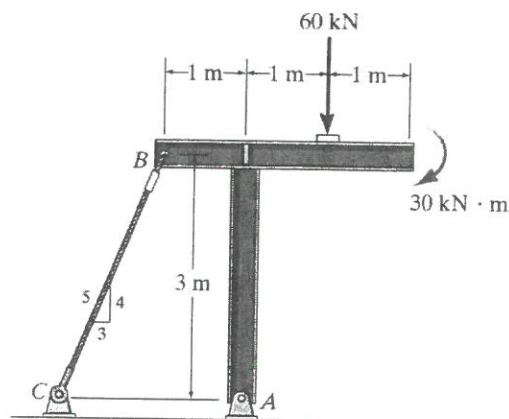

Figure Q3 (a)
- (b) The shaft in Figure Q3 (b) is supported by three smooth journal bearings at A, B, and C. Determine the components of reaction at these bearings.